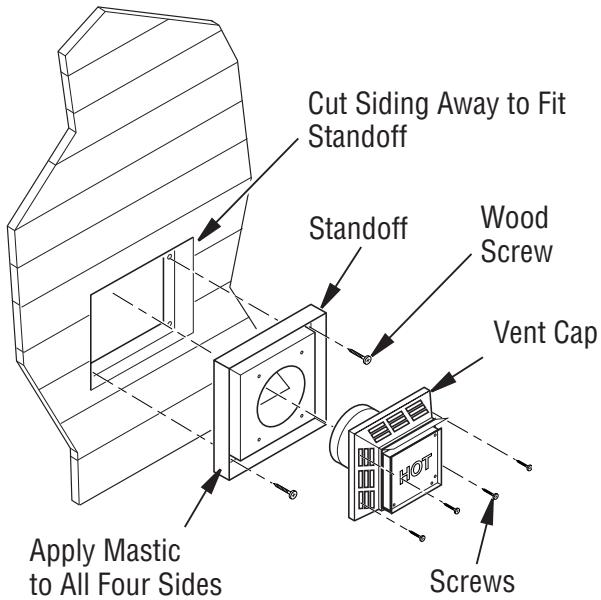

Figure 11 - Installing Siding Standoff (Combustible Exterior Wall)
1. Set fireplace in its desired location and determine the route your horizontal venting will take. Do not secure fireplace until all venting has been installed. Some installations require sliding fireplace in and out of position to make final venting connections. Figures 11 and 12 on page 21 show different configurations for venting with horizontal termination that will help you decide which application best suits your installation. Check to see if wall studs or roof rafters are in the path of your desired venting route. If they are, you may want to adjust location of fireplace.
Combustible Exterior Wall: For vinyl siding, stucco or wood exteriors, a siding standoff may be installed between vent cap and exterior wall. Siding standoff prevents excessive heat from damaging siding materials. Siding material must be cut to accommodate standoff. Bolt vent cap to standoff. Apply non-hardening mastic around outside edge of standoff. Position standoff/cap assembly in the center of 11" square hole and attach to exterior wall with provided wood screws (see *Figure 11*, page 21). Siding standoff must sit flush against exterior fascia material.